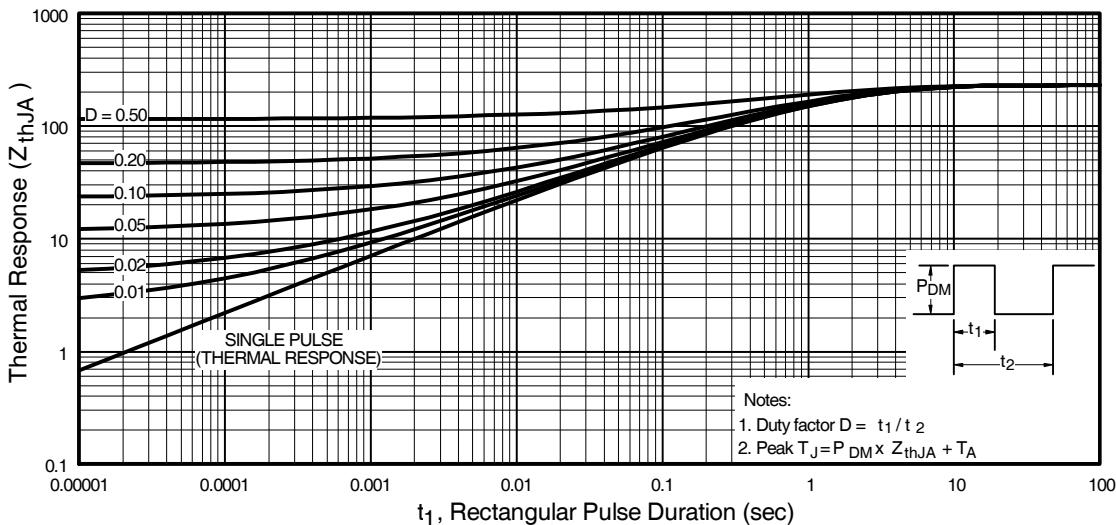

Fig 11. Maximum Effective Transient Thermal Impedance, Junction-to-Ambient
① Repetitive rating; pulse width limited by max. junction temperature. (See fig. 11)
③ Pulse width $\leq 300\mu\text{s}$; duty cycle $\leq 2\%$.
② $I_{SD} \leq 0.93\text{A}$, $dI/dt \leq 90\text{A}/\mu\text{s}$, $V_{DD} \leq V_{(\text{BR})\text{DSS}}$, $T_J \leq 150^\circ\text{C}$
④ Surface mounted on FR-4 board, $t \leq 5\text{sec}$.